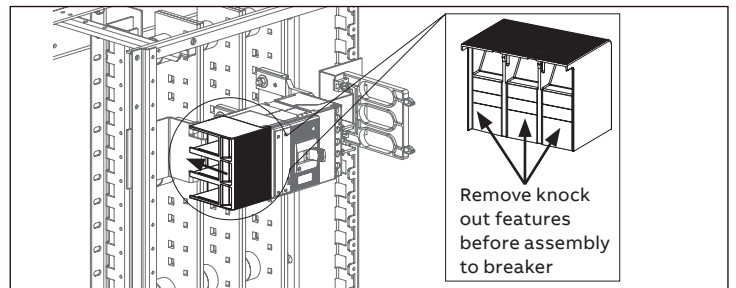

Figure 7. Installation of terminal cover
Remove the plastic wall (knock out) in terminal cover (15) and install the XT4 terminal cover on load side (slide down in as shown in figure 7).